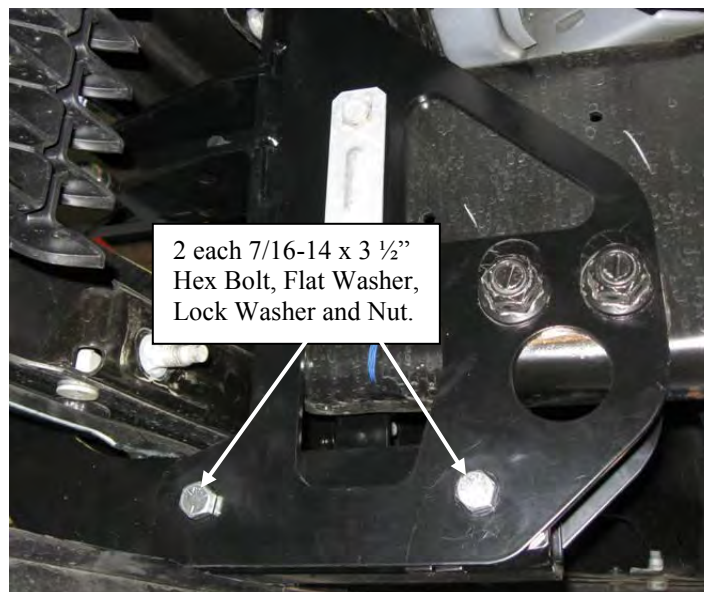

Figure 5: Large Frame Carrier: Lower bolt position.
16. Install 3 each 1/2-13 x 1 1/2" Hex Head Bolts through the three holes on the right side of the carrier plate and through the bottom bracket as shown in **Figure 5**. Install a flat washer, lock washer, and nut on the bolt. Repeat for the opposite side. Do not tighten any hardware yet.